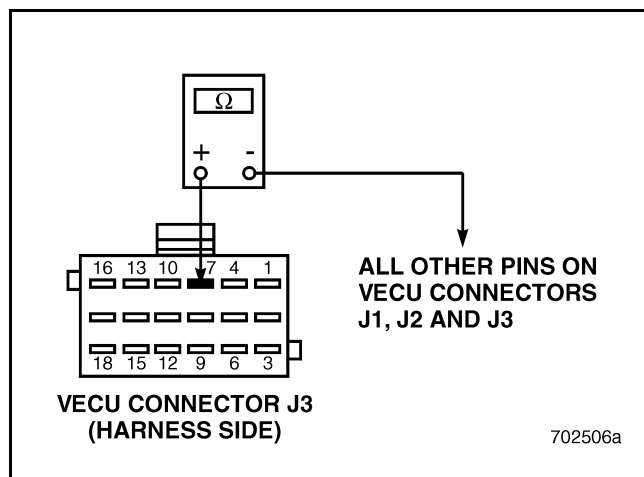

Figure 588
4. Check for continuity between VECU connector J3, pin 7 and all other pins on VECU connectors J1, J2 and J3 (see Figure 588).